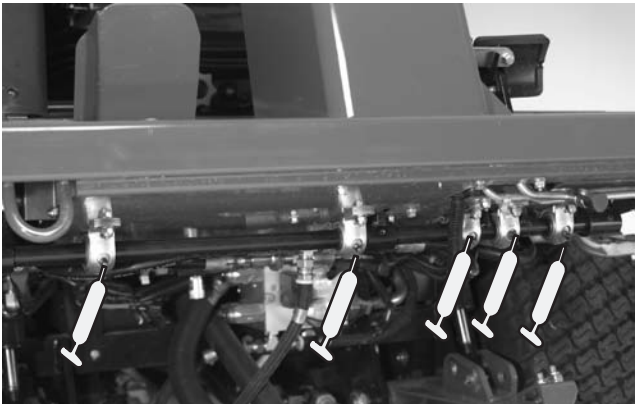

Figure 31
- Brake shaft pivot bearings (5) (Fig. 31)